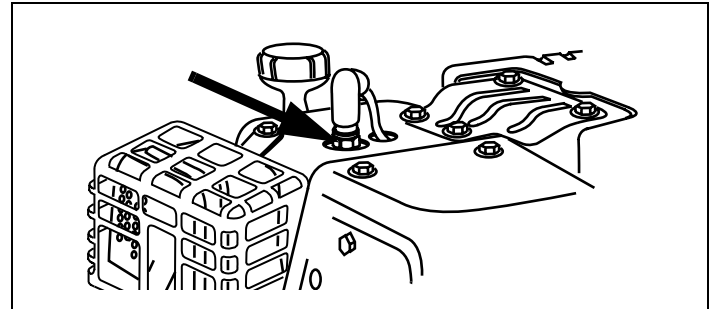

Figure 35. Typical Spark Connection
11. Connect spark plug wire to spark plug before attempting to start engine. See Figure 35.